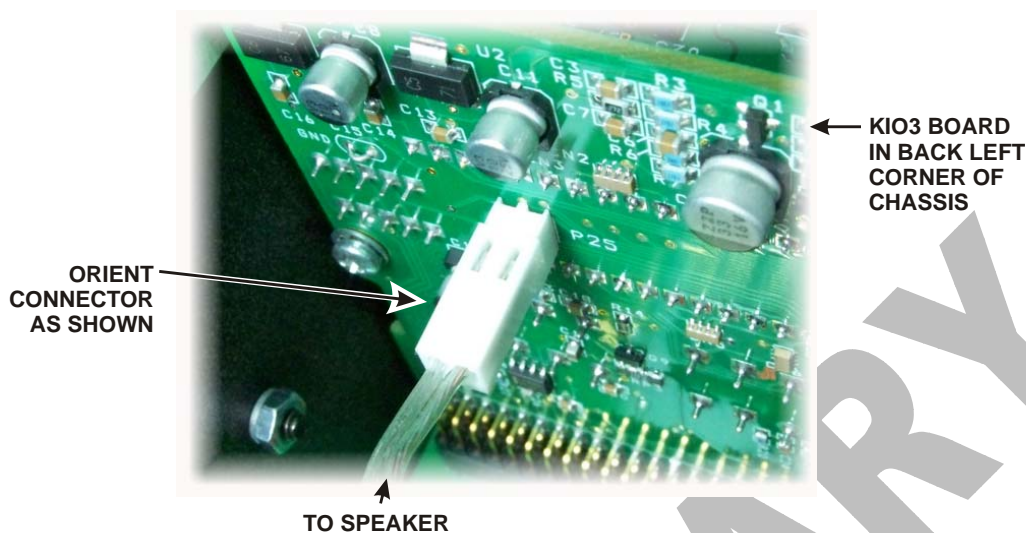

Figure 62. Connecting Speaker to KIO3 Board.
- Connect the speaker cable to P25 of the KIO3 board as shown in Figure 62.